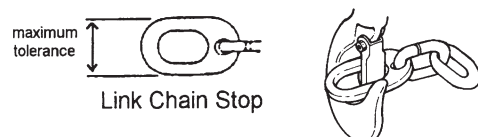

Fig. 2
7. The top and bottom hooks on your JET puller are designed to open and warn of an overload. It is important to check top and bottom hooks for proper opening. If the safety latch no longer contacts the hook opening, replace the hook. Another way to check the opening is by using the chain gauge. Position the gauge as in Fig. 2. If the gauge does not contact both sides of the